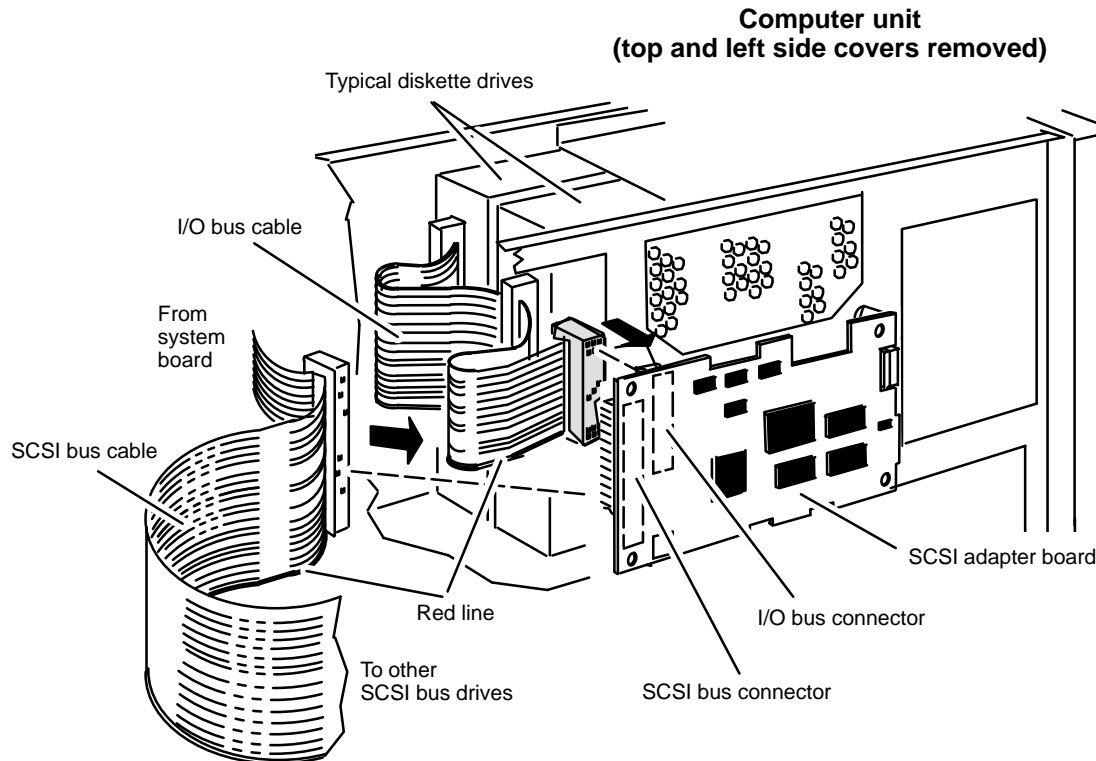

Figure 7-18 Plugging the SCSI Bus and I/O Bus Cables into the SCSI Adapter Board
4. Plug the SCSI bus and the I/O bus cables into the SCSI adapter board as shown in Figure 7-18. Be sure to plug in each cable so that the red line is on the bottom.